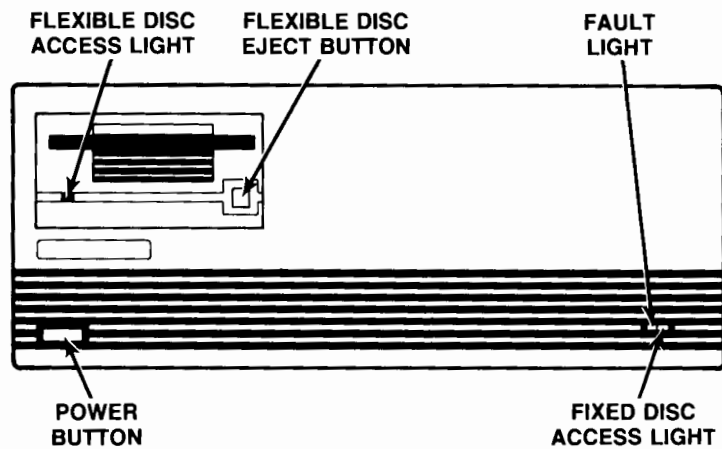

Figure 2-1: HP 9133 Front Panel
- Look at the parts of your disc drive illustrated in Figures 2-1, 2-2 and 2-3.